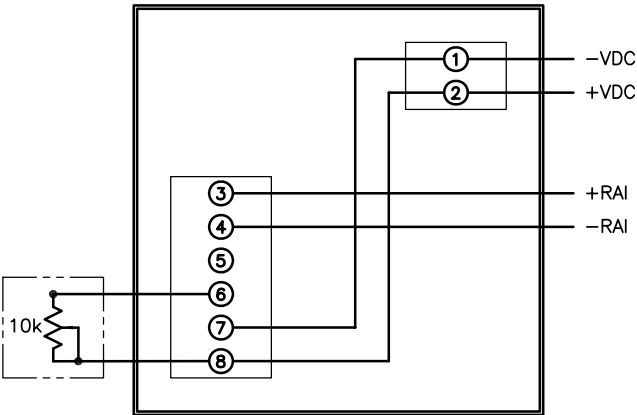

FIGURE 1
1. FIGURE 1 ILLUSTRATES A METHOD FOR DIMMER CONNECTION THAT ADDS AN OPTIONAL 10kOhm POTENTIOMETER IN SERIES WITH THE ILLUMINATION INPUT (TERMINAL 6). THIS METHOD IS PREFERRED IF THE CONSUMPTION HAS TO BE KEPT LOW, HOWEVER ITS DISADVANTAGE IS THE ILLUMINATION CANNOT BE SET TO TOTAL DARKNESS.